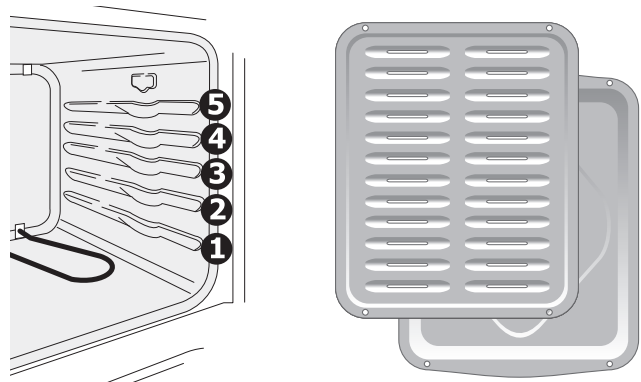

Figure 4: Rack positions (L) Broil pan and insert (R)
5. Place the insert on the broil pan (if equipped), then place the food on the broil pan insert (See Figure 4).